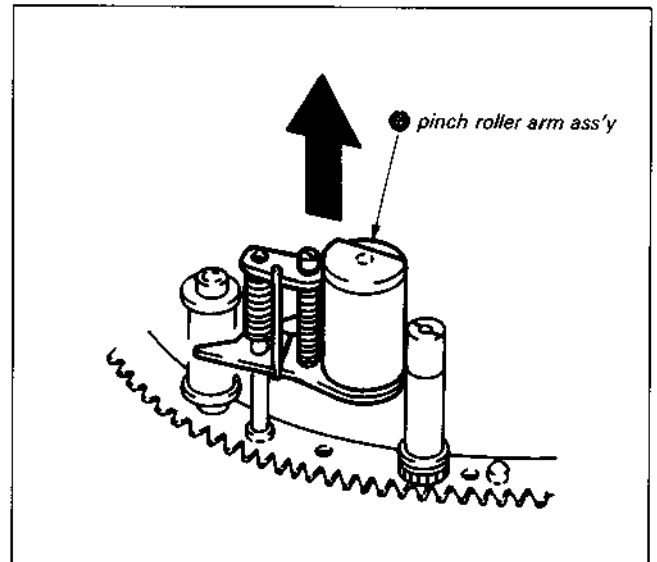

Fig. 7-17.
- 5) Remove pinch roller arm assembly ② in the direction of arrow. (See Fig. 7-17.)